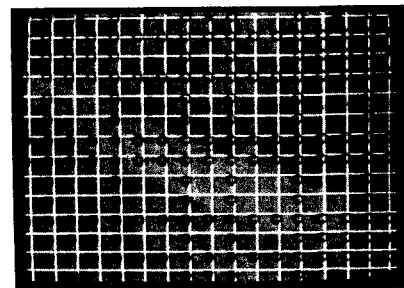

Fig. 5-4-17
- o Line up the reference allow heads with edges of the raster on the monochrome underscanned video monitor. (Fig. 5-4-17)